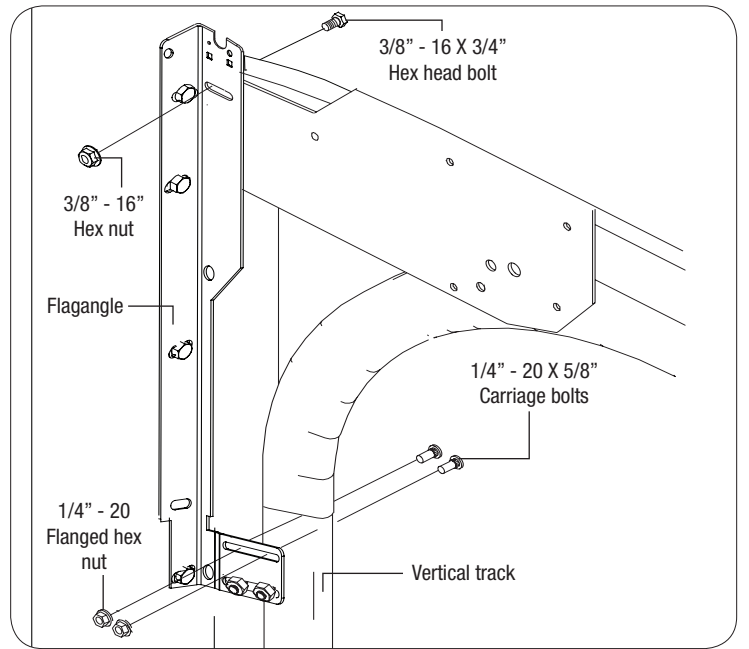

FIG. 5.1
Secure the horizontal track to the corresponding flagangle with (2) 1/4" - 20 x 5/8" carriage bolts and nuts. Level the horizontal track and secure the upper curve to the flagangle using (1) 3/8" - 16 x 3/4" Hex Head Bolt, and (1) 3/8" - 16 hex nut, as shown in FIG. 5.1.